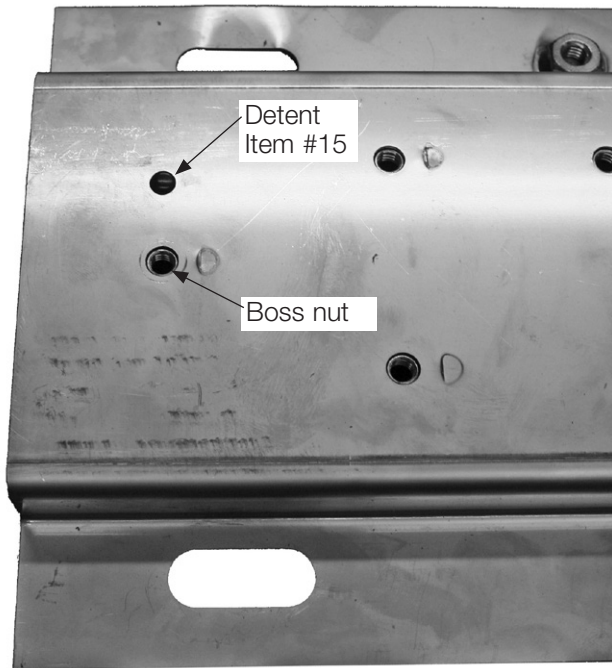

Figure 22. Pocket mounting location
1. Insert a detent (Item 15) into small hole at each end of the channel base. Refer to Figure 22.
2. Attach pocket (Item 13) to the base at the centered boss nut using 5/16-18 X 1/2" cap screw (Item 14). Refer to Figures 22 and 23.